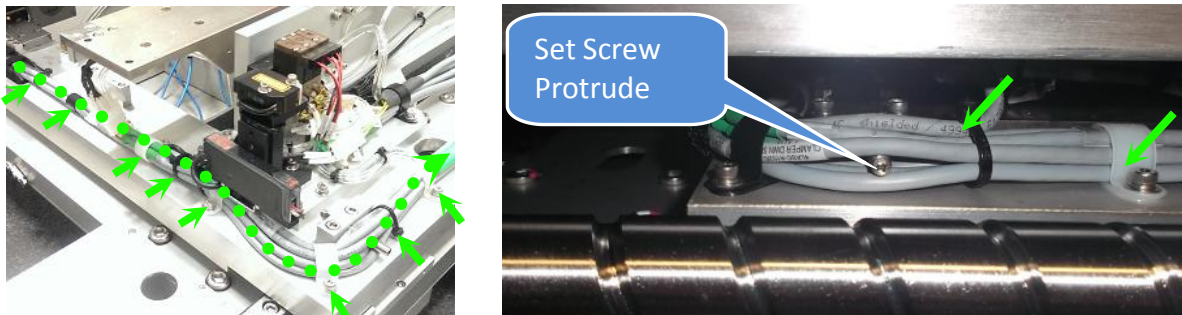

Figure 37 Stepper Motor Cable Routing (Fix Rail)
39. Gently route the cable as below Figure 37. Secure cable with Cable Clamp & Cable Tie.